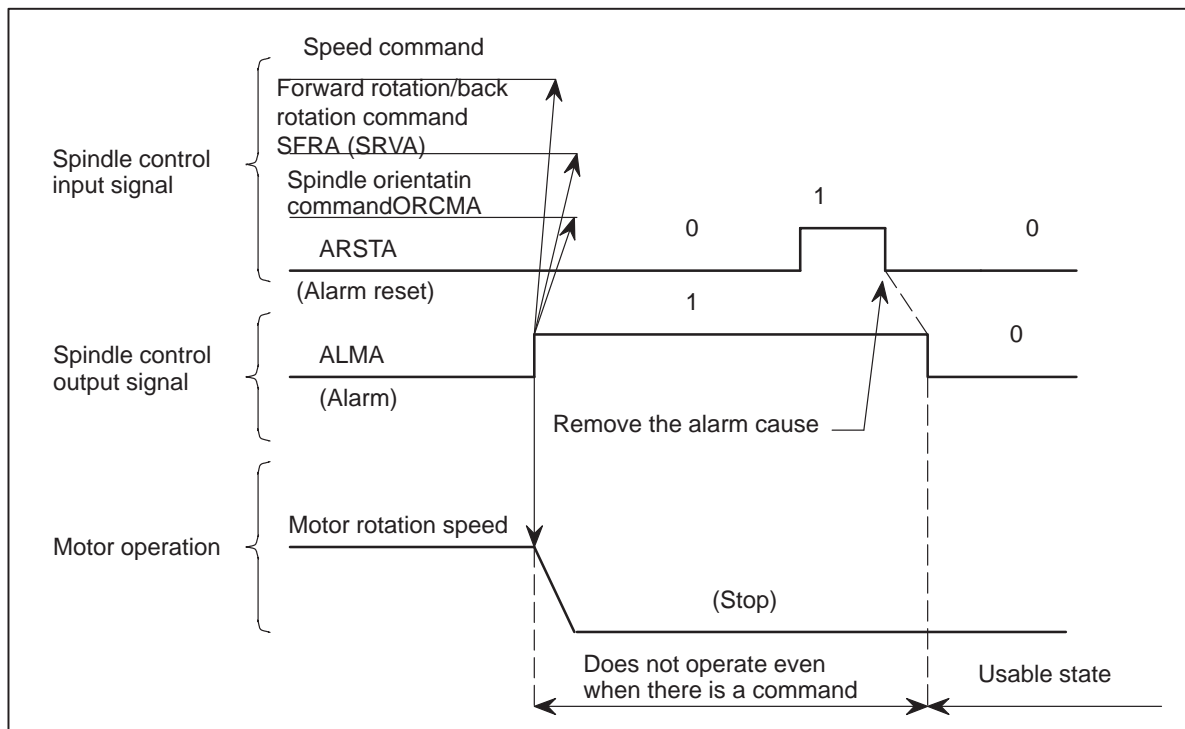

Fig.10.4.9 Timing Chart of the Spindle Alarm Signal
- The relationship between the alarm signal and the alarm reset signal is as shown in Fig. 10.4.9.